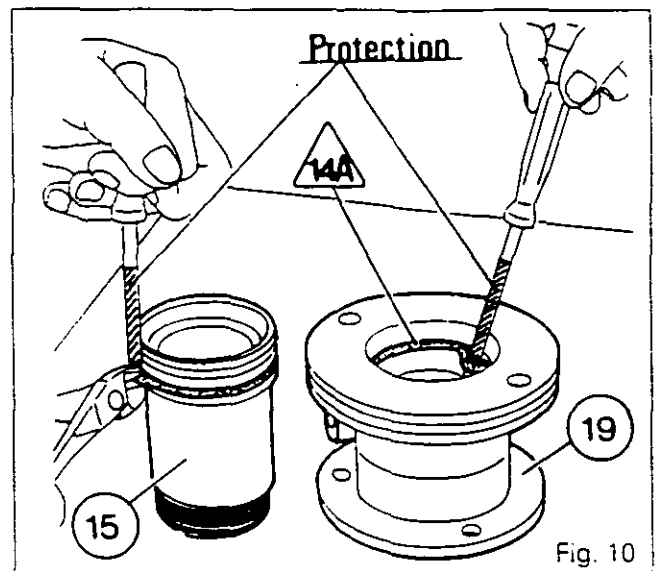

Fig. 10
- Note :** 1) To remove the seals, use a suitably protected screwdriver (Fig. 10).